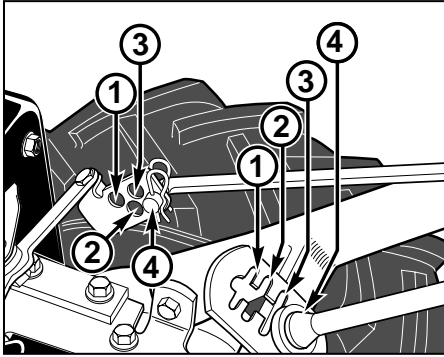

Figure 3-4: Handlebar height slots and clutch swivel plate holes.
- (b) There are four holes in the clutch swivel plate and four slots in the height adjustment bracket (see numbered holes and slots in Figure 3-4). For correct operation of the Forward Clutch mechanism, the numbered hole used for the Forward Clutch rod must match the numbered slot in the height adjustment bracket. Example: If handlebar is in slot #4, put Forward Clutch rod in hole #4 of clutch swivel plate.
- (d) Check for correct tension on the Forward Clutch rod as described in item 5 of “Step 4: Attach Forward Clutch Rod” on page 8.